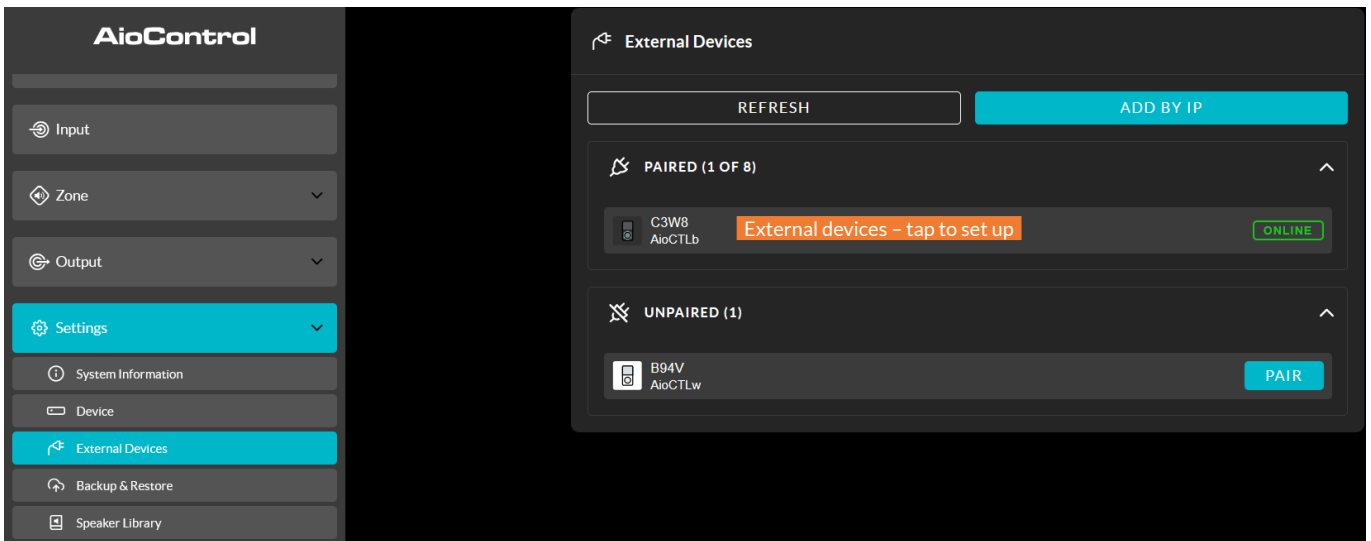

Figure 6M: The 'External Devices' screen
- The **'External Devices'** menu allows you to pair control panels with an amplifier and configure them. Depending on the product, installation and configuration, each device can remotely control one or more amplifier zones. Figure 6M shows the **'External Devices'** menu display .